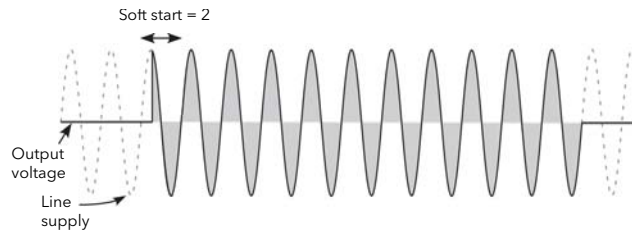

Figure 92 Soft start example
- Soft Start** For Burst Firing only, this is the soft start duration, in supply voltage cycles, applying a phase angle ramp at the beginning of each on period (Figures 92).